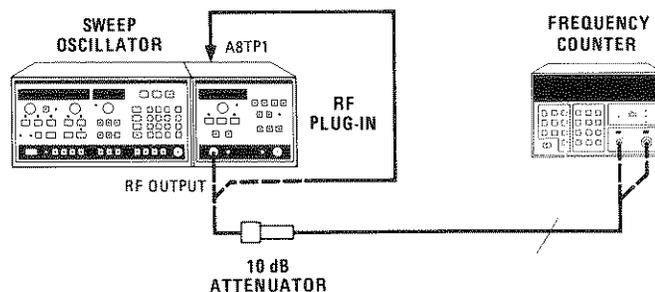

Figure 5-10. Test Setup for Frequency Accuracy Adjustments
YO Driver Board adjustments should be avoided if possible. Set up equipment as shown in Figure 5-10 and perform step 25 in Paragraph 5-17 to check frequency accuracy and sweep linearity across the band. If frequencies are within  $\pm 15$  MHz tolerance, do not make these YO Driver Board Adjustments.
1. Press 8350A INSTR PRESET, set STOP frequency to 2 GHz, and press 83525A AMPTD MKR. Connect Frequency Counter to A8TP1 (Figures 5-10 and 5-11) and check that output frequency is 50.000 MHz  $\pm$  250 Hz. If not, adjust A8C4 50 MHz Oscillator for correct frequency. If necessary, select A8C3 for correct adjustment range.
2. Connect equipment as shown in Figure 5-10 with frequency counter and 10 dB attenuator connected to RF OUTPUT.